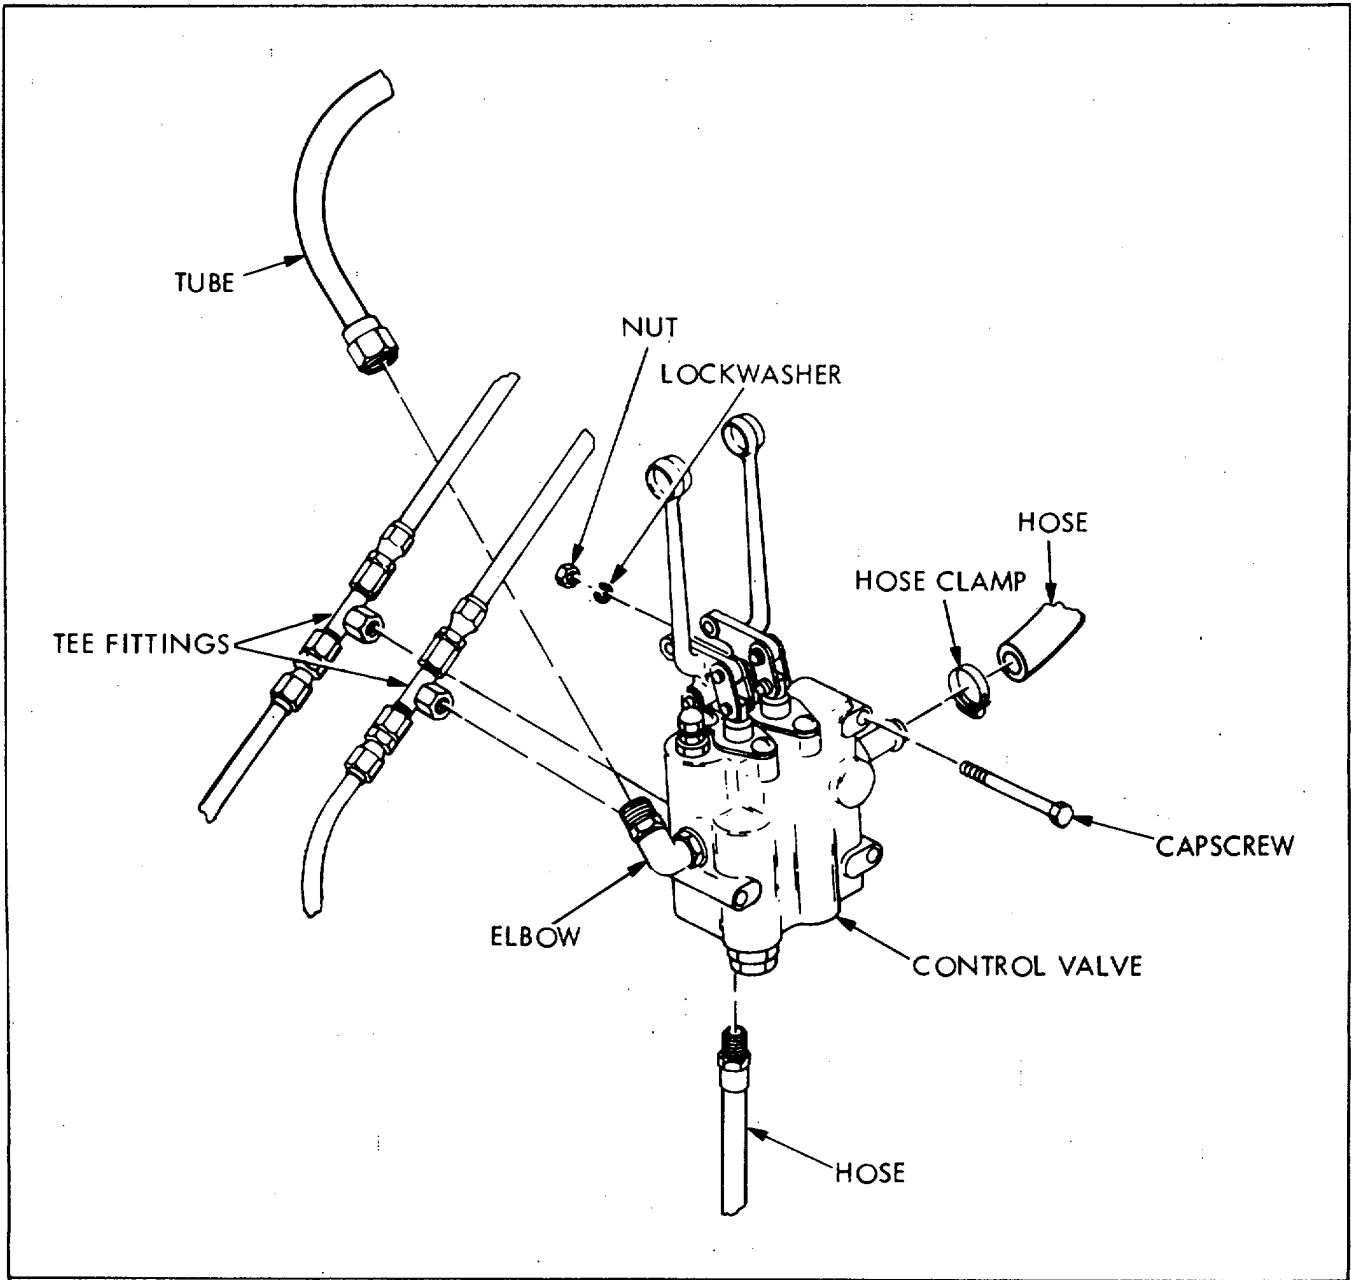

Figure 6-18. Lift and Tilt Control Valve Removal
(1) Disconnect tube at elbow (figure 6-18) after draining hydraulic tank.
(2) Disconnect tee fittings at control valve.
(3) Loosen hose clamp and remove upper hose.
(4) Disconnect lower hose from control valve.
(5) Remove capscrews, nuts, and washers, and remove valve from truck.
(6) Remove elbows and adapters from valve. Replace them on hoses for safekeeping, as they can be reused if not damaged. Be certain to plug or cap all hoses to excludes dirt.